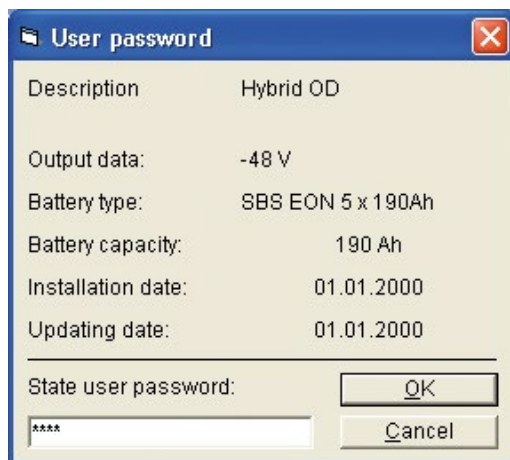

Figure 6-4 Password
7. Enter the password (1234 by default) and press OK, Figure 6-4.